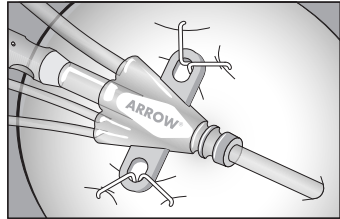

Fig. 16
- Firmly squeeze anchoring device together to close staple and secure access device to skin (refer to Fig. 16).